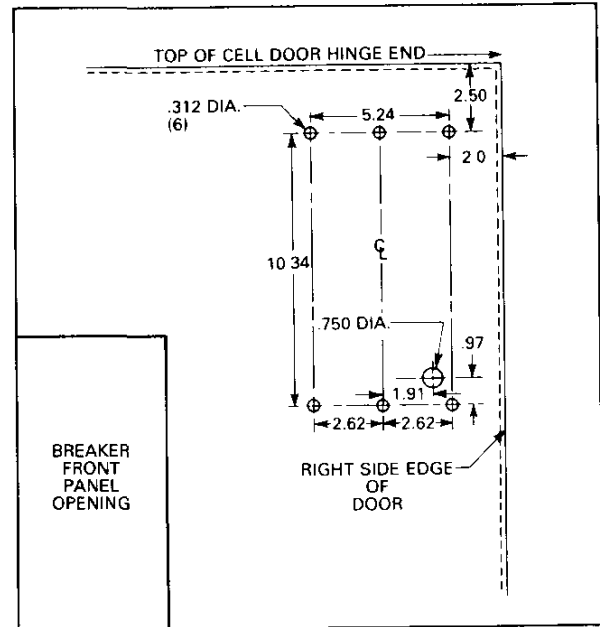
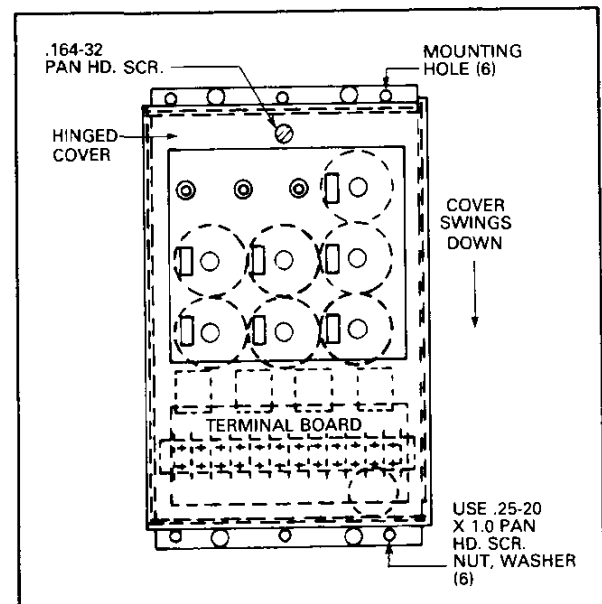

Fig. 8 Amptector Mounting Details Vertical Mount
Fig. 9 Amptector In Vertical Position
1. Acquaint yourself with the location of the mounting holes and placement of the amptector, Fig. 8.
2. Facing the front of the cell door scribe a horizontal line 2.5 inches down from the top of the door and parallel to the edge of the door. Scribe a vertical line 2.0 inches from the top right side of the door and parallel to edge. The intersection of these two lines locates the hole for the screw holding the amptector at the top right side of the door, Fig. 8.
3. From the vertical line measure a distance of 5.24 inches and scribe a parallel line, Fig. 8 and from the horizontal line measure a distance of 10.34 inches and scribe a line parallel to the horizontal line. This now locates the four (4) outer hole locations. Now locate the center line, and the two inner holes, Fig. 8.
4. Using the centerline and the left vertical line locate the center of the grommet hole, Fig. 8.
5. Center punch all locations, drill six (6) .312 diameter holes and one (1) .750 diameter hole. Place the grommet into the .750 dia. hole.
6. Mount the amptector on the door using .25-20 x 1.0 pan hd. scr., washer, lockwasher and nut. Finger tighten the nuts on the screws. Fig. 9.
7. With cell door in the closed position, remove the .164-32 x .375 pan hd. scr. on the amptector cover see Fig. 9 swing the cover downward 180 degrees to expose the terminals on the amptector.